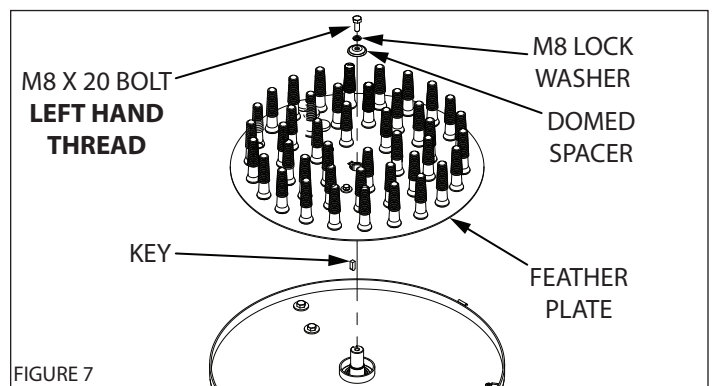

FIGURE 7
9. Insert key in output shaft. (**SEE FIGURE 7**)
12. Assemble M8 bolt, M8 lock washer, and 8mm domed spacer over shaft. Tighten with 13mm wrench. (**SEE FIGURE 7**)